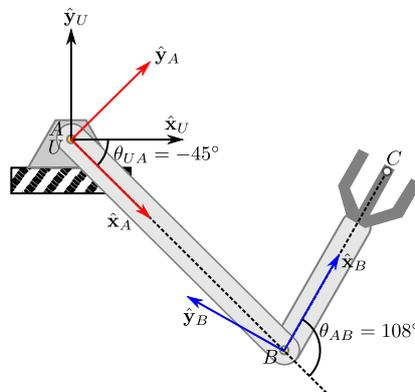

Figure 4: A two-link manipulator
4. Consider the two-link robotic manipulator arm shown in Fig. 4. F_U is a non-rotating frame fixed to the base of the manipulator. F_A does not translate but rotates about point A and is aligned with the axis of the first link AB . The length of the link AB is $l_{AB} = 5.0$. The F_B frame translates with point B and rotates about point B is aligned with the axis of the second link BC . The length of the link BC is $l_{BC} = 3.5$.